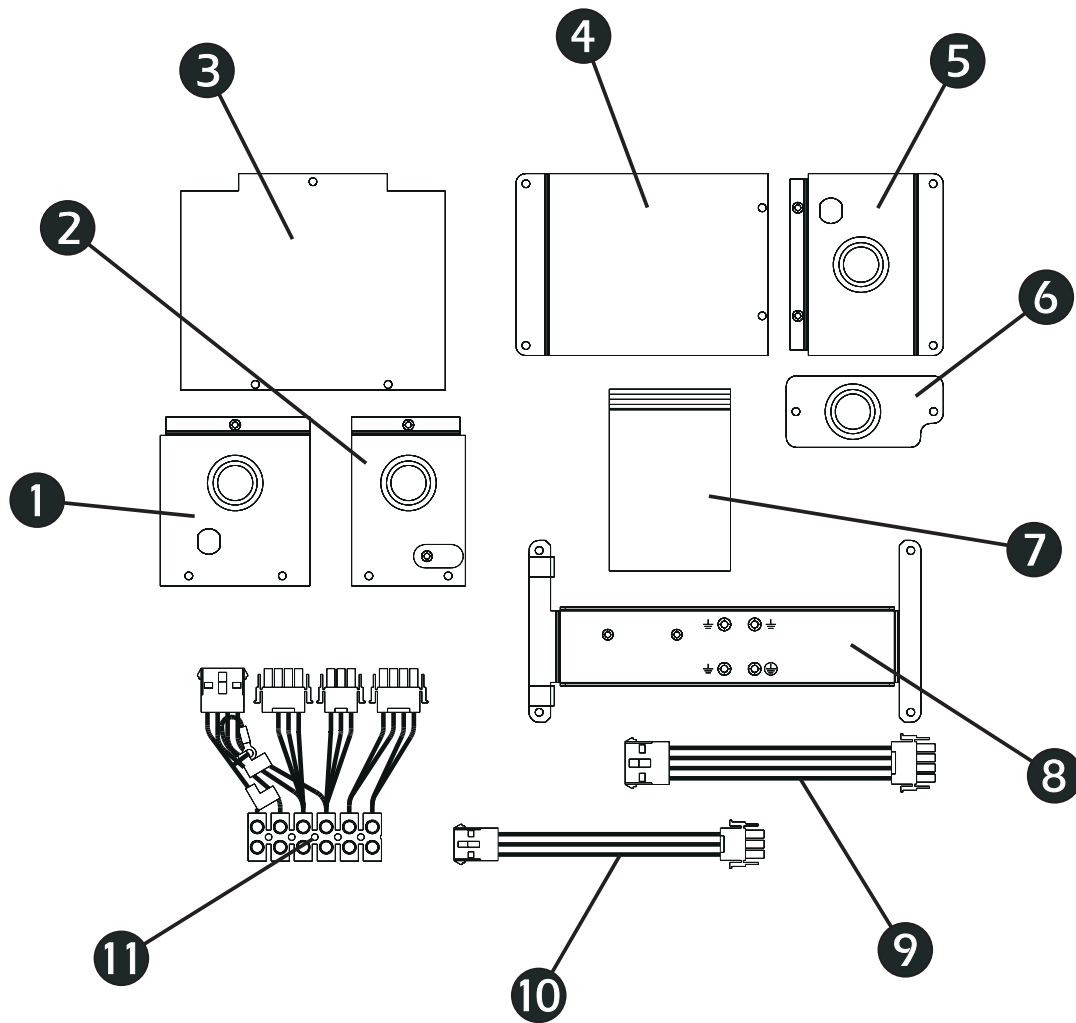

Figure 3-1 Contents of the Hardwire Kit
- 2. Retrieve the four-wire, yellow jumper harness (Figure 3-1, item #9).*